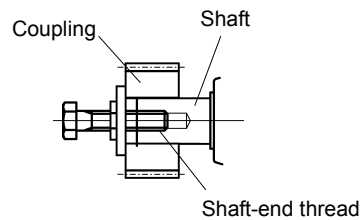

Fig. 2
- Shrink fit or shaft-end thread is recommended for mounting. (Fig. 2)
(1) Use of coupling